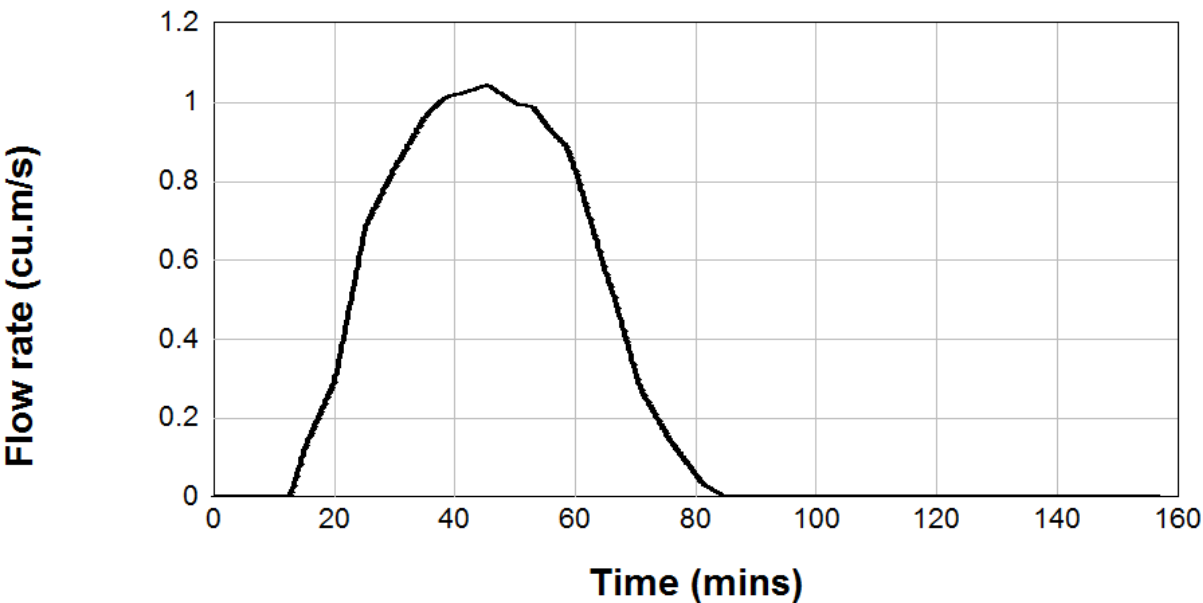

Figure 4 – Western Site Boundary Node N2 – 20 Year ARI Storm – 60 minute duration
- ❖ Figure 4 Upstream Catchment Analysis – Proposed Condition Ground
The Unit Hydrographs (*see Figures 4 to 9*) are presented for the peak catchment discharges for the Western Site boundary (N2), Eastern Site Boundary (N4) and the total catchment Outlet. These hydrographs present the overall catchment discharge for each area from the commencement of each of the storm events through to when the catchment returns to its pre storm state.